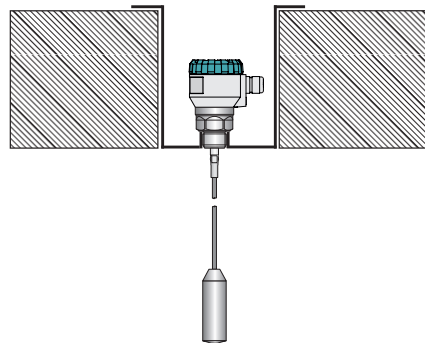

Fig. 9: Installation in the ceiling inlet of a concrete silo
- In the event that the thickness of the concrete is greater than the diameter of the hole, it is necessary to install the level meter into a countersink, see fig. 9.